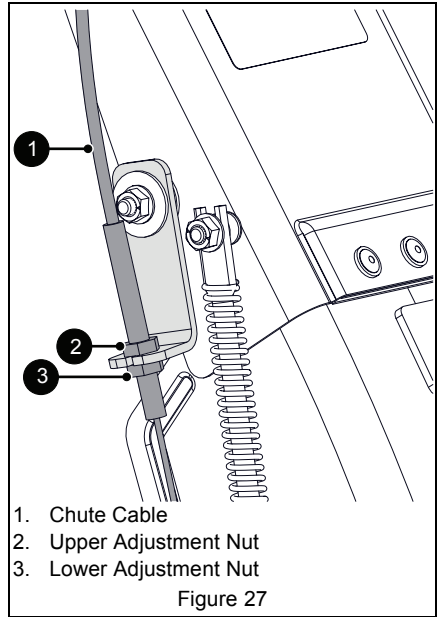

Figure 27
2. Adjust nuts on chute cable. See Figure 27.